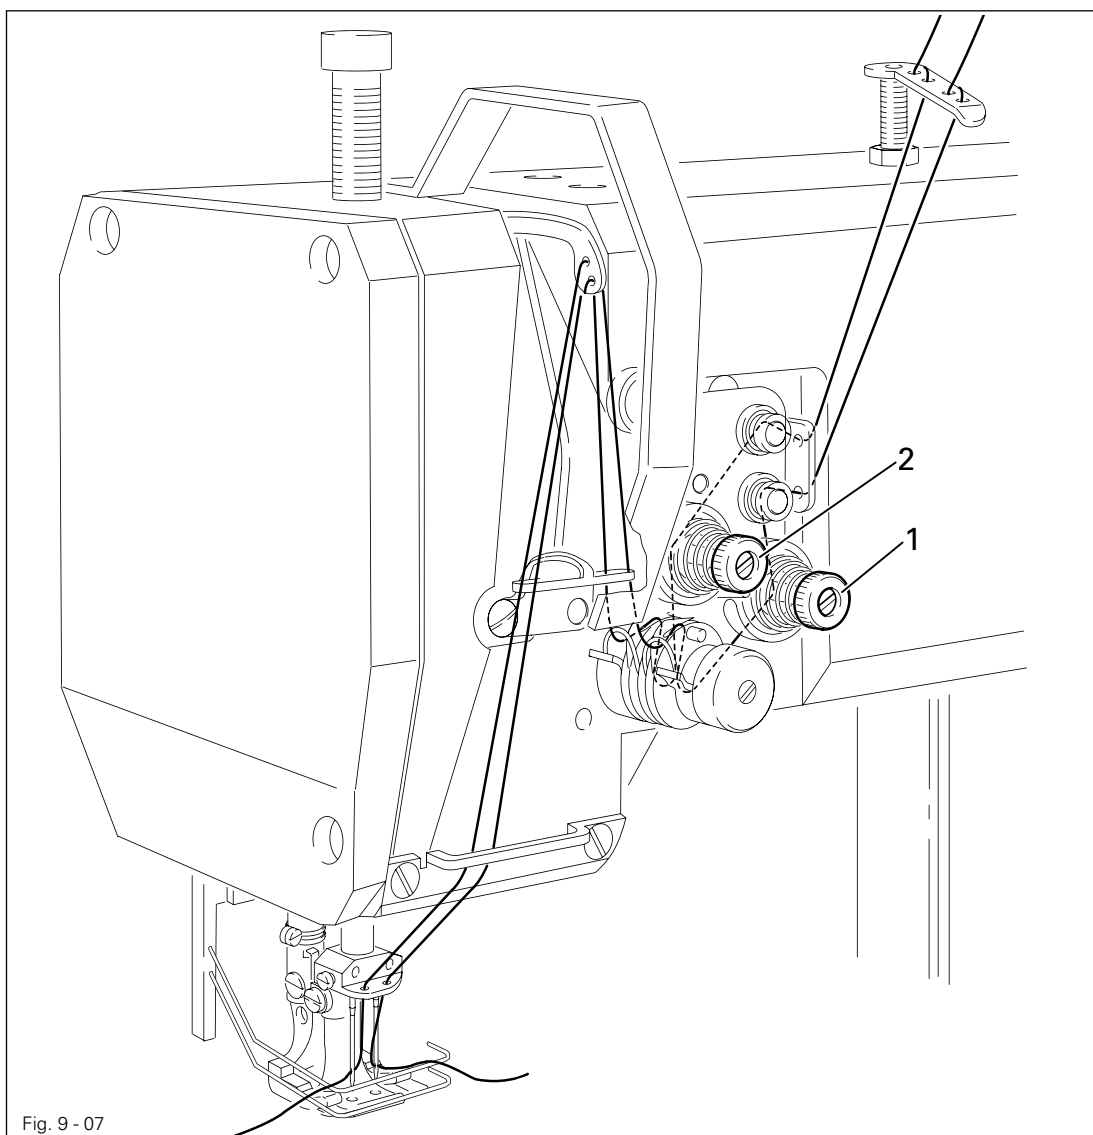

Fig. 9 - 07
- Thread the machine as shown in Fig. 9 - 06. Take note that the needle is threaded from the left (see arrow).
- Thread the machine as shown in Fig. 9 - 06. Care must be taken that the left-hand needle is threaded from the right and the right-hand needle is threaded from the left.
9.07 **Adjusting the stitch counter for the bobbin thread control** (only on machines with Motor and P40 (ED) control unit)